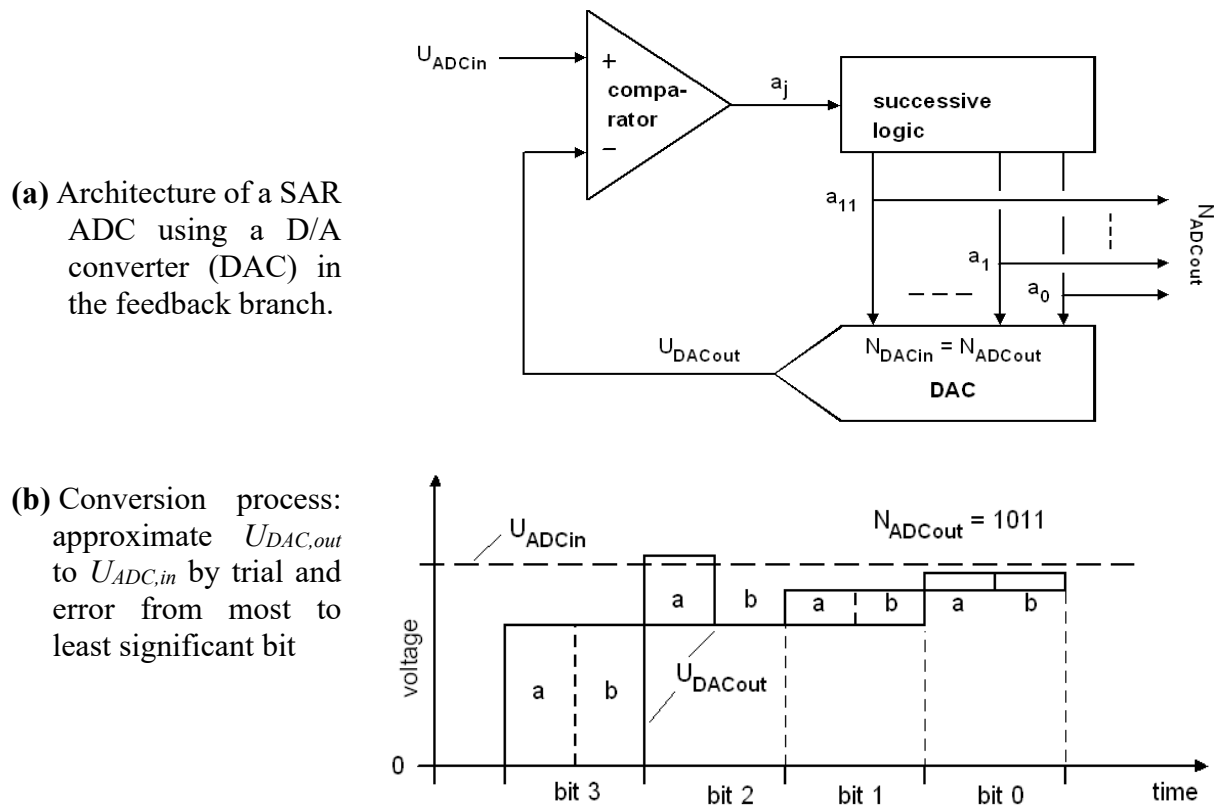

Fig. 3.5: Principle of successive approximation register (SAR) A/D conversion
This is the most probably mostly used ADC type due to its good price/performance relationship. The acronym SAR stands for "successive approximation register", which is contained in the successive logic. The procedure of this conversion type is illustrated in Fig. 3.5:
- Phase (b) in Fig. 3.5(b) was introduced for educational purposes. Resetting a_j and setting a_{j-1} can be made in the same step.